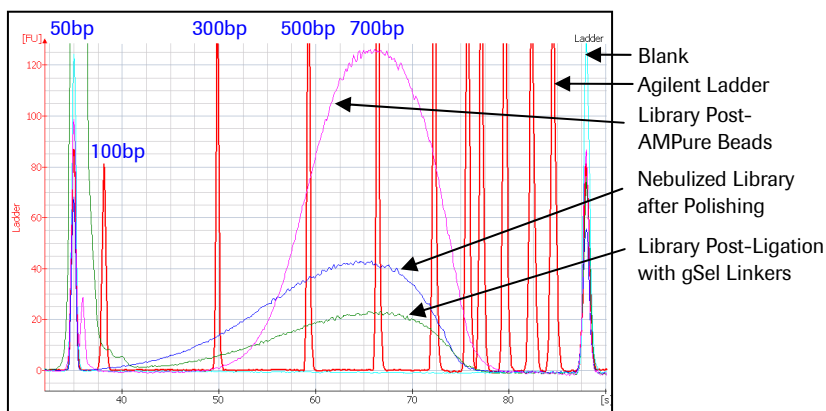

Figure 6: Example Agilent Bioanalyzer 2100 DNA 7500 Chip Run
***Note:** Run at least one blank lane per DNA chip. The final library should be larger than 300bp and smaller than 700bp , and there should be no evidence of linker dimers ($\sim 40\text{bp}$ peak). Typically linker dimers will be present in ligation pre-size exclusion beads but not present in the blank lane (refer to Figure 6).*